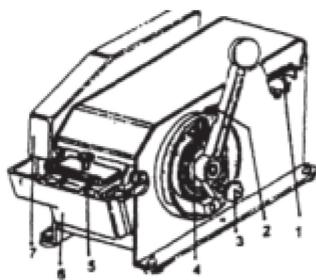

FIG. 1
ASSEMBLY(Fig. 1 and 2)
- Pull the lever forward until lever cam (2) points to the desired length marked on the black scale.
- It is possible to set a second length of cut ('H' closing, different size boxes, etc) by loosening clamping nut (3) and set cam (4) on the red scale at the desired length (see Fig.1).
- The cutting is done when the lever is released in rest position. If you need very short lengths (4-8 in) the lever has not enough speed to make the cutting possible. In this case you should tense the tension spring (1) with the opposite ring (see Fig.1).